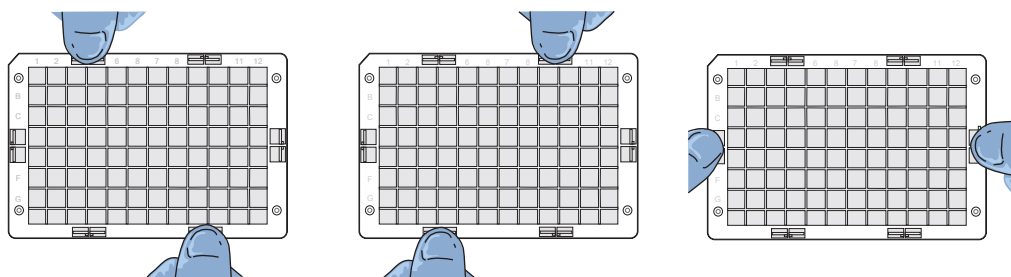

Figure 37 Clamping verification steps.
5. Verify the plate clamping step to ensure that the array plate is securely fastened to the hybridization tray. Remove the plate stack from the drawer and place on a bench top. Using your thumbs, press the array plate downward following the positions that are specified in Figure 37. *No clicking sound indicates proper clamping.*